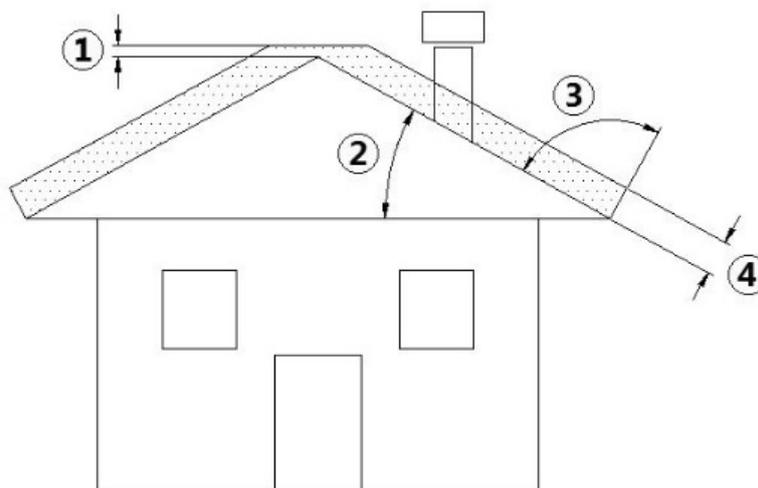

Fig. 2 - Inclined roof
LEGEND	Fig. 2
- The outlet height in the atmosphere must be away from the reflux area caused by the roof structure or by obstacles laying nearby (see **Fig. 2**).